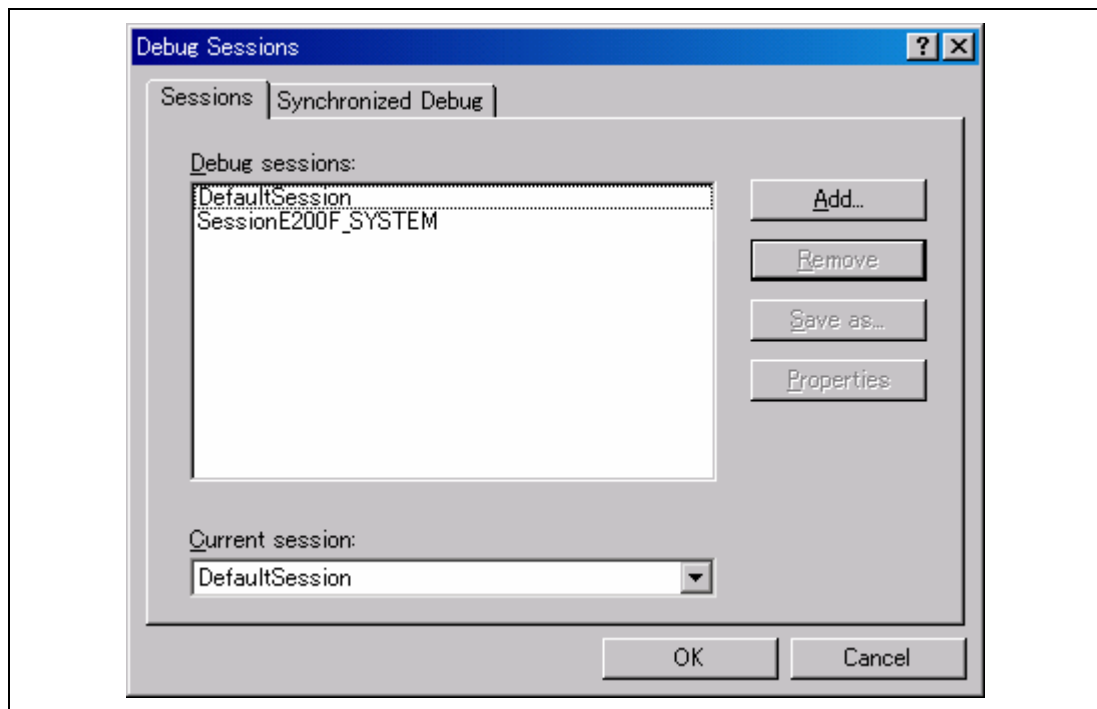

Figure 4.34 [Debug Sessions] Dialog Box
1. Select [Options -> Debug Sessions...]. This will open the [Debug Sessions] dialog box (figure 4.34).
1. Select [Options -> Debug Sessions...] to display the [Debug Sessions] dialog box (figure 4.34).